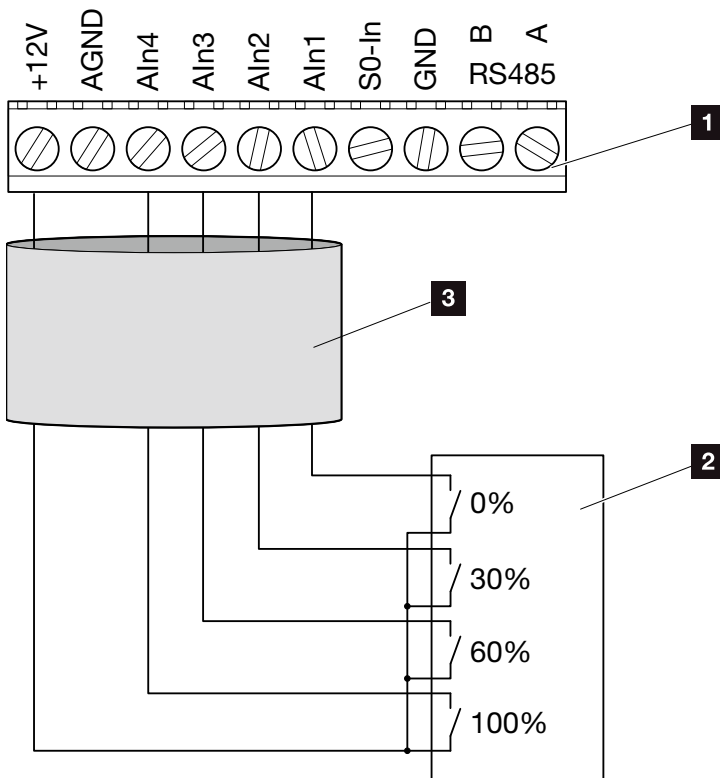

Fig. 63: Connection of ripple control receiver
3. Connect the ripple control receiver to the master inverter  **Fig. 62 It. 1** on the analogue interface terminal (10-pin).  **Fig. 63**